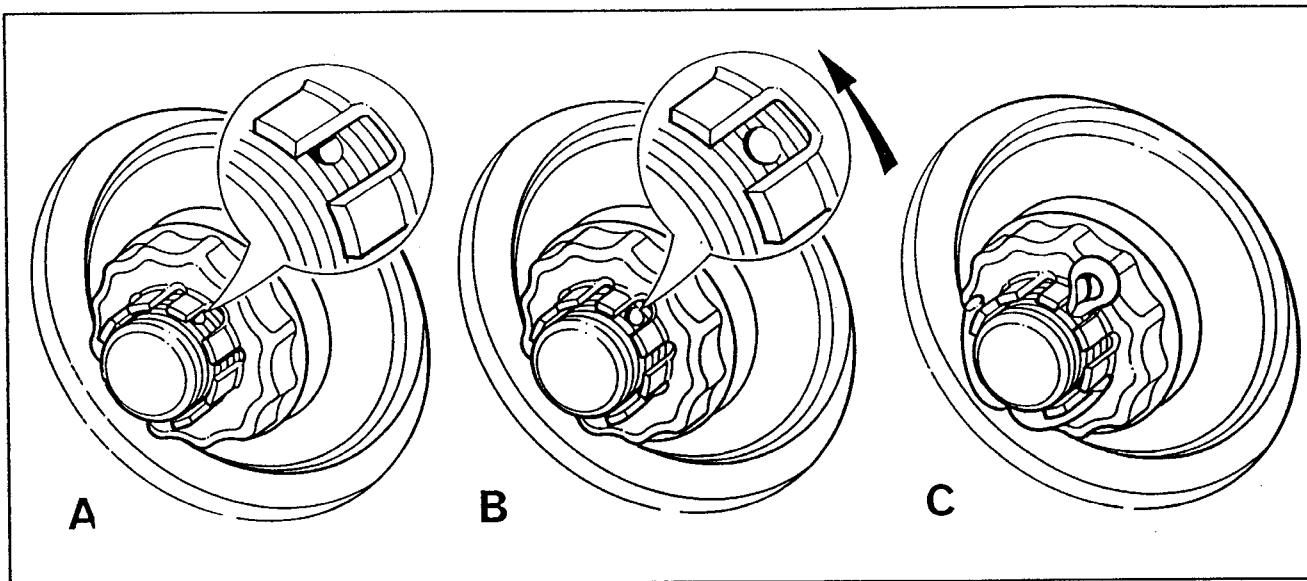

Fig 3. Front hub - adjustment sequence
5. Fit the hub nut retainer without disturbing the hub nut in a position so that one of the tabs on the retainer partly covers the left hand side of the split pin hole in the stub axle (see Fig 3. - illustration A).
6. Slacken the nut and nut retainer until the split pin hole is fully exposed (see Fig. 3. - illustration B), to give the correct bearing end float of 0,025 - 0,152 mm (0.001-0.006 in.)
13. Fit the hub retainer following the detailed procedure in 'Front Hub Wheel Bearings - adjust' so that one of the tabs on the retainer partly covers the left hand side of the split pin hole in the stub axle (Fig 3. - illustration B)
14. Slacken the nut and nut retainer until the split pin hole is fully exposed (Fig 3. - illustration B), to give the correct bearing end float of 0,025 - 0,152 mm (0.001-0.006 in.)